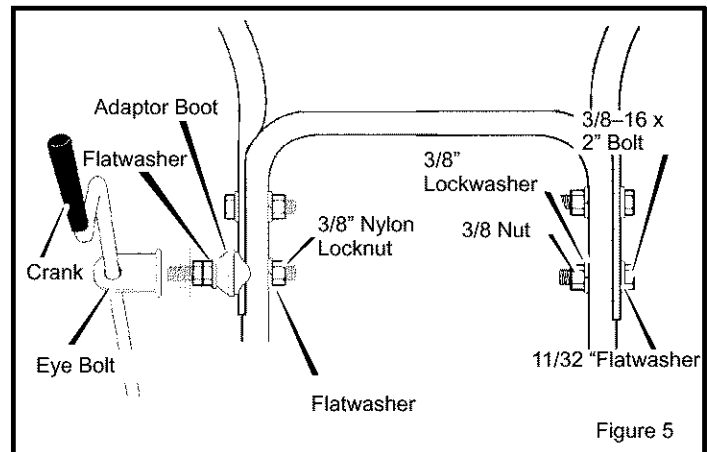

Figure 5
3. Install hardware supplied in the parts bag (screw, flatwasher, lockwasher, and hex nut) into right lower hole of upper handle (See Figure 5). Do not tighten until all bolts are in place.
5. Install the eye bolt through the lower hole on the left hand side of the handle. (See Figure 5).